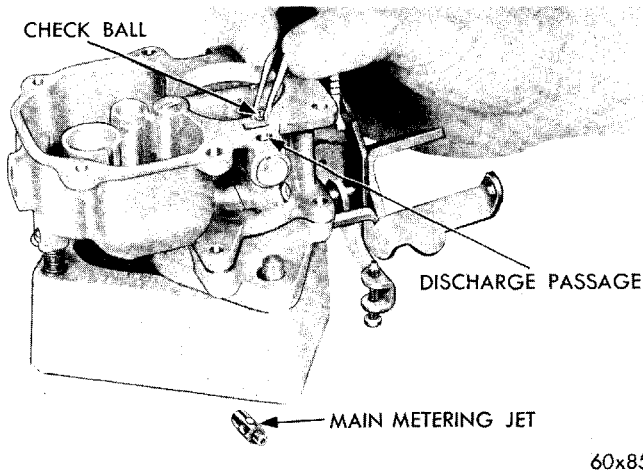

Fig. 11 — Installing Accelerator Pump Discharge Check Ball
(8) Install the accelerator pump discharge check ball in the discharge passage, as shown in Figure 11.